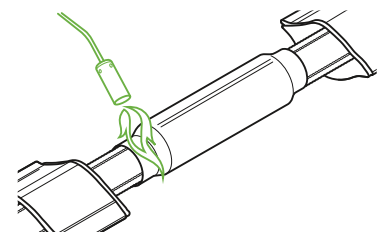

Fig. B12.2.6
6. Shrink the sleeve down with the use of a gas burner, moving the flame from the middle to the ends of the sleeve all around the pipe circumference (Fig. B12.2.6).